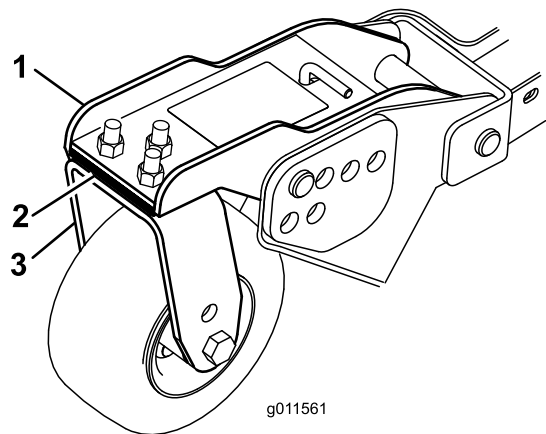

Figure 27
3. Adjust the shims (3 mm or 1/8 inch) on front caster arm(s) to match the height-of-cut decal (Figure 27).
5. If the inside edge of the wing mower deck is too high relative to the outside edge of the front mower deck, remove a 3 mm (1/8 inch) shim from the bottom of the front, inside caster arm on the wing mower deck (Figure 27).